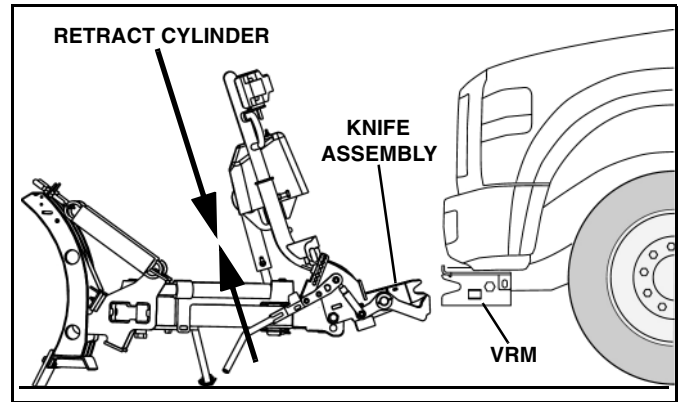

Figure 1-27
3. Retract the lift cylinder (raise the plow) until the A-Frame contacts the stacking stop. (See Figure 1-27).